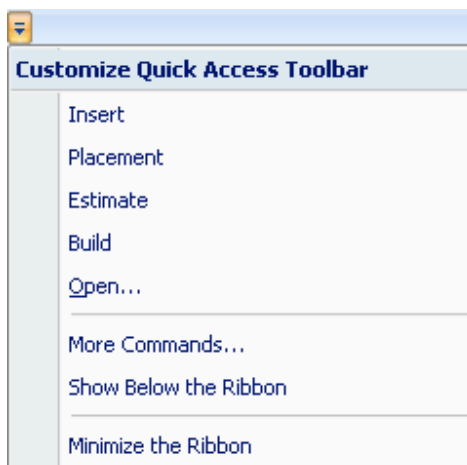

Figure 5-60 *Customize Quick Access Toolbar* menu
- ☐ From the *Customize Quick Access Toolbar* menu (see Figure 5-60 on the previous page), select **More Commands**.or—